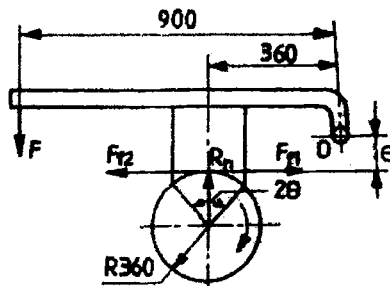

Figure 15 (b)
- (b) A 360 mm radius Brake drum contacts a single shoe as shown in Figure 15 (b) and resists a torque of 225 Nm at 500 rpm. The co-efficient of friction is 0.3. Determine (i) the normal reaction on the shoe, (ii) the force to be applied at the lever end for counter clockwise rotation of the drum if  $e = 0$  (iii) the force to be applied at the lever end for clockwise rotation of the drum if  $e = 40$  mm, (iv) the force to be applied at the lever end for counter clockwise rotation of the drum if  $e = 40$  mm.